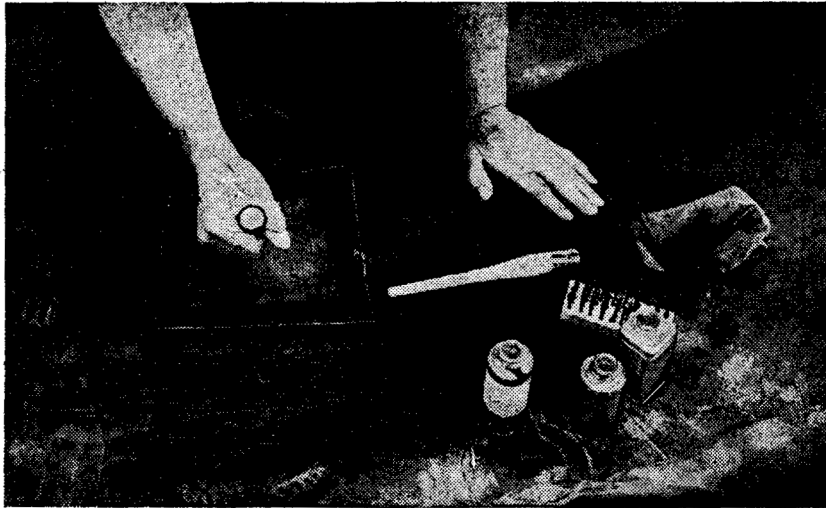

Figure 11. Roll from inside to edge.
9. Roll patch down thoroughly with roller, working from center to edge to work out any trapped air. (Fig. 11.)